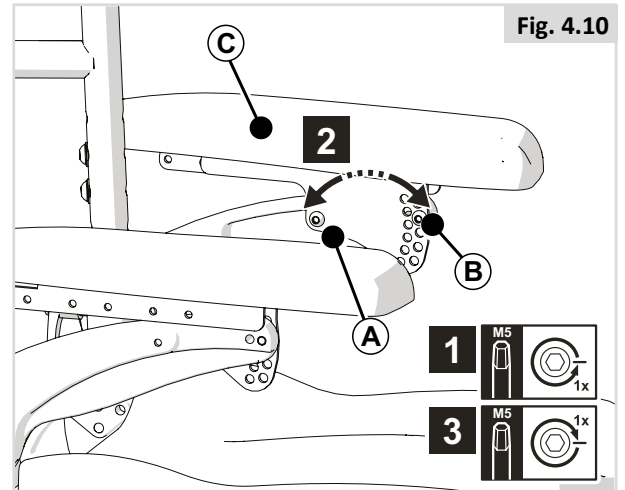

Fig. 4.10
##### PART 2 (Fig. 4.10)
In order to reach the rear screw in lower armrest heights, loosen screws (A) of Fig 4.10 and adjust the angle of the pad first.